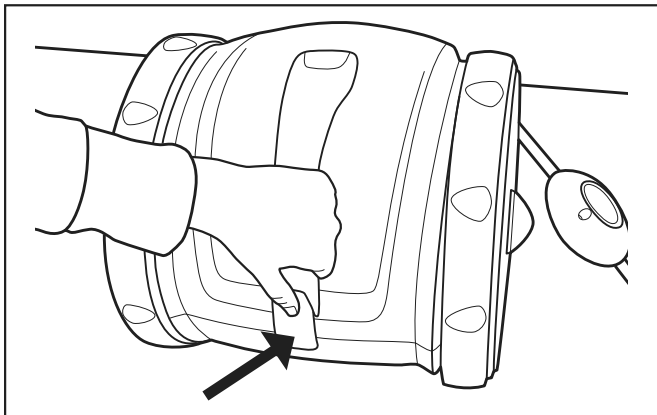

Figure 9. Open Cover of the Cleaner
3. Push the cover latch and lift the cover. Refer to Figure 9.
- Lower the cover and allow the cover latch to lock the top cover in place (refer to Figure 9).